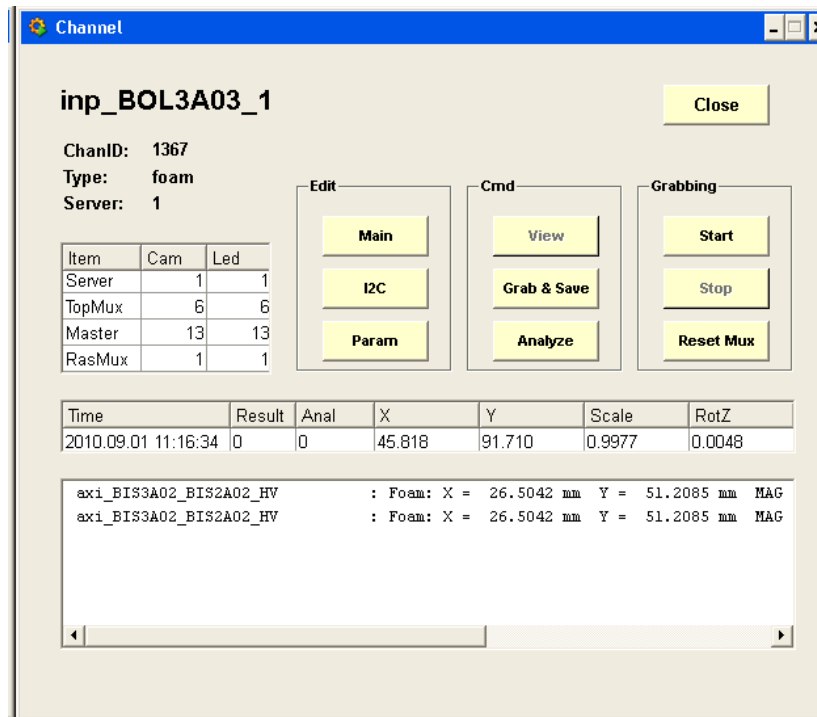

Figure 2.8: Channel panel
- Double click on the channel to be checked. As a result a panel will appear as shown in Figure 2.8.